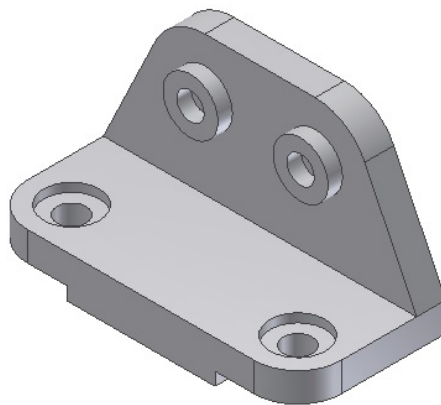

Figure 6-112 Model after creating counterbore holes
- Create two counterbore holes taking the reference of the cylindrical faces of fillets by using the **Hole** tool, refer to Figure 6-112.
9. Choose **Cancel** to close the **Hole** dialog box. The model after creating the counterbore holes is shown in Figure 6-112.